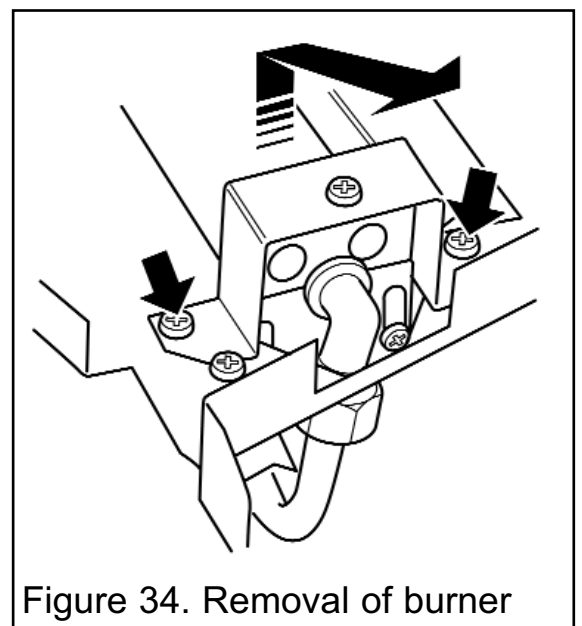

Figure 34. Removal of burner
(See figure 34).
3. Remove the two screws from the burner clamping plate (See figure 34)